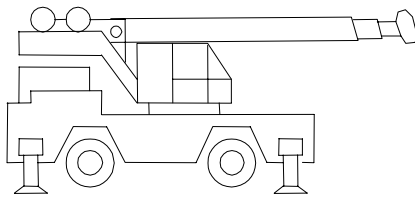

Figure 2
3. Boom down (Fig. 2) to zero degrees. Verify the angle with an inclinometer.